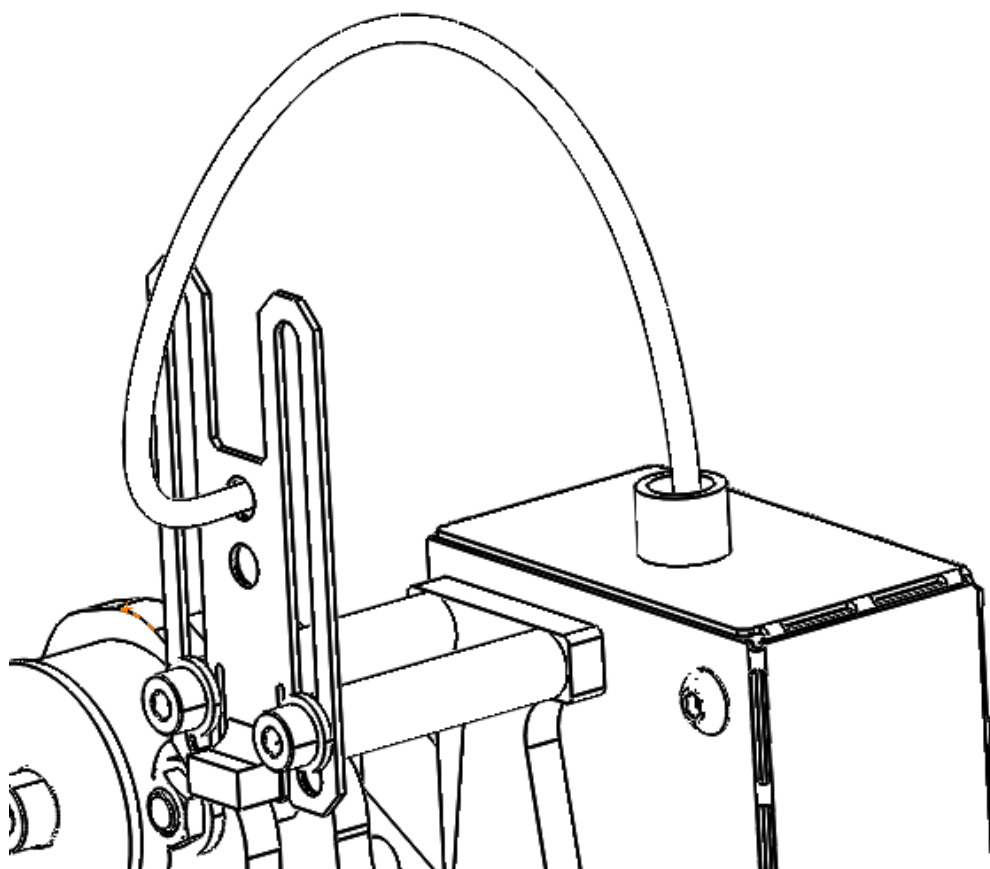

Fig. 5.4: Optical probe connected to the control console
- ❑ Connect the optical RPM probe cable to the connector on the load cell measurement unit as shown in Fig. 5.4.